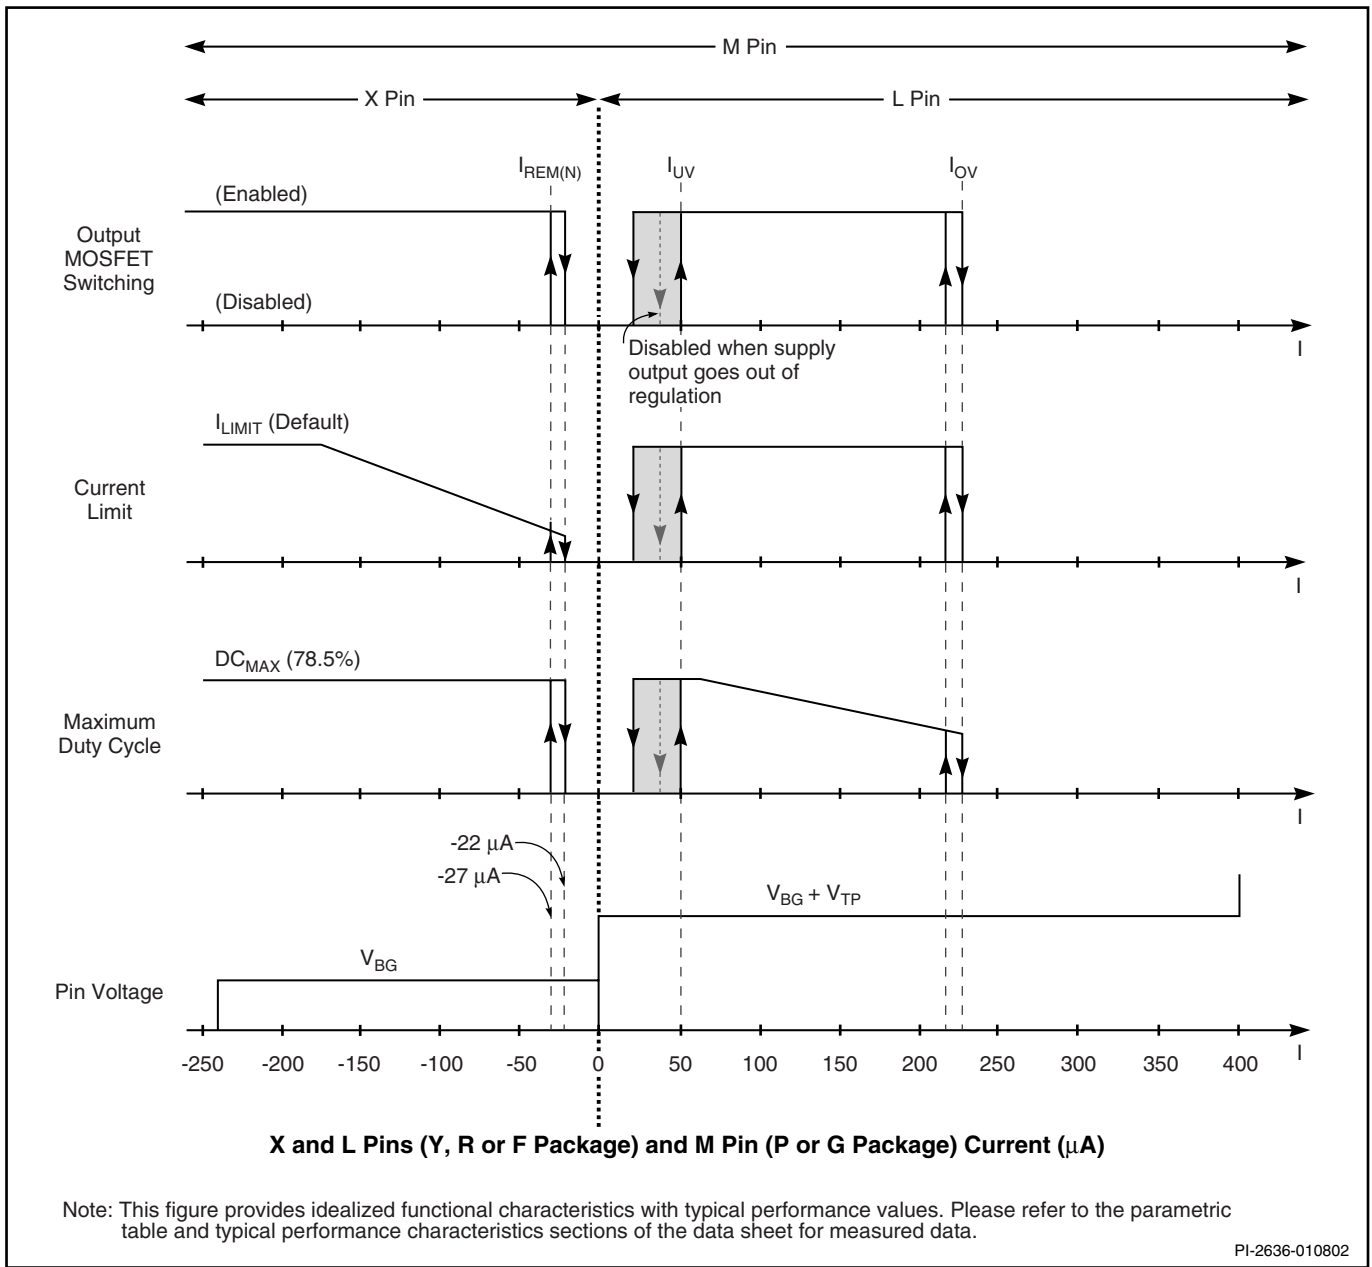
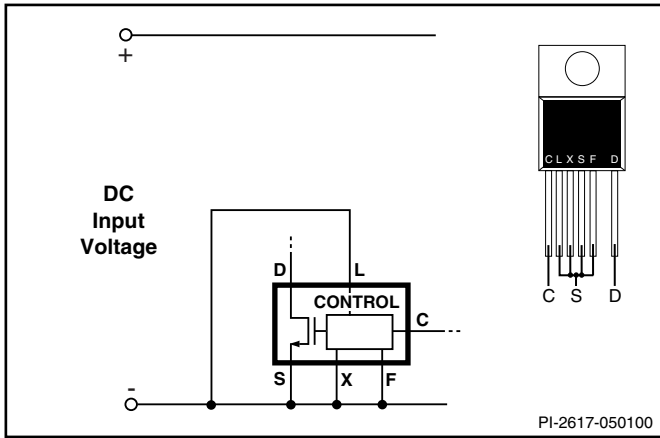
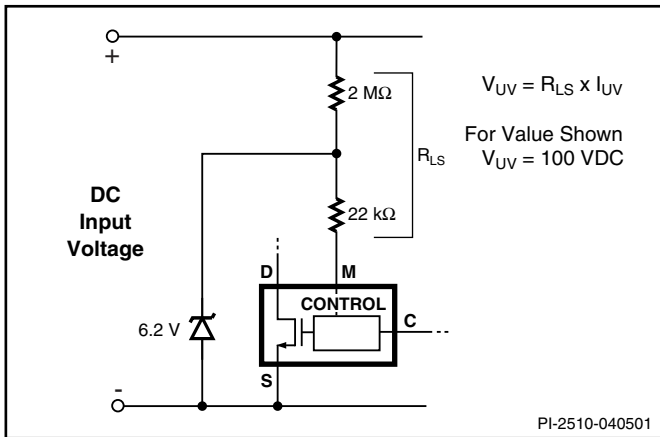
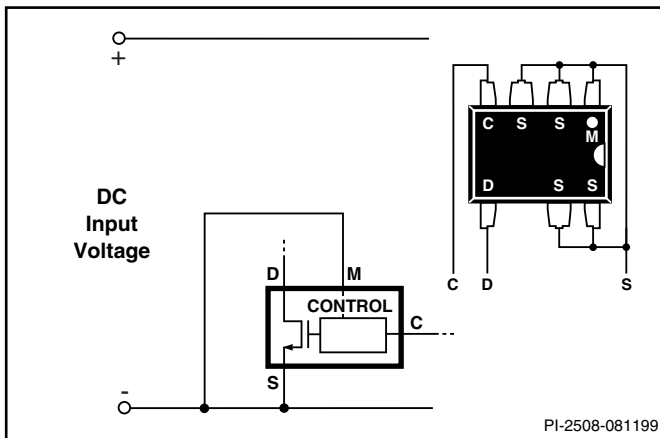

Figure 11. MULTI-FUNCTION (P or G package), LINSE-SENSE, and EXTERNAL CURRENT LIMIT (Y, R or F package) Pin Characteristics.
Figure 16. Three Terminal Operation (LINE-SENSE and EXTERNAL CURRENT LIMIT Features Disabled. FREQUENCY Pin Tied to SOURCE or CONTROL Pin).
Figure 18. Line-Sensing for Under-Voltage Only (Overvoltage Disabled).
Figure 30. Three Terminal Operation (MULTI-FUNCTION Features Disabled).
The LINE-SENSE (L) pin is usually used for line sensing by connecting a resistor from this pin to the rectified DC high voltage bus to implement line overvoltage (OV), under-voltage (UV) and line feed-forward with  $DC_{MAX}$  reduction. In this mode, the value of the resistor determines the OV/UV thresholds and the  $DC_{MAX}$  is reduced linearly starting from a line voltage above the under-voltage threshold. See Table 2 and Figure 11.
The EXTERNAL CURRENT LIMIT (X) pin is usually used to reduce the current limit externally to a value close to the operating peak current, by connecting the pin to SOURCE through a resistor. This pin can also be used as a remote ON/OFF and a synchronization input in both modes. See Table 2 and Figure 11.
The maximum duty cycle,  $DC_{MAX}$ , is set at a default maximum value of 78% (typical). However, by connecting the LINE-SENSE or MULTI-FUNCTION pin (depending on the package) to the rectified DC high voltage bus through a resistor with appropriate value, the maximum duty cycle can be made to decrease from 78% to 38% (typical) as shown in Figure 11 when input line voltage increases (see line feed forward with  $DC_{MAX}$  reduction).
The same resistor used for UV also sets an overvoltage threshold which, once exceeded, will force *TOPSwitch-GX* output into off-state. The ratio of OV and UV thresholds is preset at 4.5 as can be seen in Figure 11. When the MOSFET is off, the rectified DC high voltage surge capability is increased to the voltage rating of the MOSFET (700 V), due to the absence of the reflected voltage and leakage spikes on the drain. A small amount of hysteresis is provided on the OV threshold to prevent noise triggering. The OV feature can be disabled independent of the UV feature as shown in Figures 18 and 32.
feature, the maximum duty cycle  $DC_{MAX}$  is also reduced from 78% (typical) at a voltage slightly higher than the UV threshold to 30% (typical) at the OV threshold (see Figure 11). Limiting  $DC_{MAX}$  at higher line voltages helps prevent transformer saturation due to large load transients in forward converter applications.  $DC_{MAX}$  of 38% at the OV threshold was chosen to ensure that the power capability of the *TOPSwitch-GX* is not restricted by this feature under normal operation.
*TOPSwitch-GX* can be turned on or off by controlling the current into the LINE-SENSE pin or out from the EXTERNAL CURRENT LIMIT pin (Y, R or F package) and into or out from the MULTI-FUNCTION pin (P or G package) (see Figure 11). In addition, the LINE-SENSE pin has a 1 V threshold comparator connected at its input. This voltage threshold can also be used to perform remote ON/OFF control. This allows easy implementation of remote ON/OFF control of *TOPSwitch-GX* in several different ways. A transistor or an optocoupler output connected between the EXTERNAL CURRENT LIMIT or LINE-SENSE pins (Y, R or F package) or the MULTI-FUNCTION pin (P or G package) and the SOURCE pin implements this function with “active-on” (Figures 22, 29 and 36) while a transistor or an optocoupler output connected between the LINE-SENSE pin (Y, R or F package) or the MULTI-FUNCTION (P or G package) pin and the CONTROL pin implements the function with “active-off” (Figures 23 and 37).
There are a total of four functions available through the use of the LINE-SENSE pin: OV, UV, line feed-forward with  $DC_{MAX}$  reduction, and remote ON/OFF. Connecting the LINE-SENSE pin to the SOURCE pin disables all four functions. The LINE-SENSE pin is typically used for line sensing by connecting a resistor from this pin to the rectified DC high voltage bus to implement OV, UV and  $DC_{MAX}$  reduction with line voltage. In this mode, the value of the resistor determines the line OV/UV thresholds, and the  $DC_{MAX}$  is reduced linearly with rectified DC high voltage starting from just above the UV threshold. The pin can also be used as a remote ON/OFF and a synchronization input. Refer to Table 2 for possible combinations of the functions with example circuits shown in Figure 16 through Figure 40. A description of specific functions in terms of the LINE-SENSE pin I/V characteristic is shown in Figure 11 (right hand side). The horizontal axis represents LINE-SENSE pin current with positive polarity indicating currents flowing into the pin. The meaning of the vertical axes varies with functions. For those that control the ON/OFF states of the output such as UV, OV and remote ON/OFF, the vertical axis represents the enable/disable states of the output. UV triggers at  $I_{UV}$  (+50  $\mu$ A typical with 30  $\mu$ A hysteresis) and OV triggers at  $I_{OV}$  (+225  $\mu$ A typical with 8  $\mu$ A hysteresis). Between the UV and OV thresholds, the output is enabled. For line feed-forward with
There are two functions available through the use of the EXTERNAL CURRENT LIMIT pin: external current limit and remote ON/OFF. Connecting the EXTERNAL CURRENT LIMIT pin and SOURCE pin disables the two functions. In high efficiency applications, this pin can be used to reduce the current limit externally to a value close to the operating peak current by connecting the pin to the SOURCE pin through a resistor. The pin can also be used for remote ON/OFF. Table 2 shows several possible combinations using this pin. See Figure 11 for a description of the functions where the horizontal axis (left hand side) represents the EXTERNAL CURRENT LIMIT pin current. The meaning of the vertical axes varies with function. For those that control the ON/OFF states of the output such as remote ON/OFF, the vertical axis represents the enable/disable states of the output. For external current limit, the vertical axis represents the magnitude of the  $I_{LIMIT}$ . Please see graphs in the Typical Performance Characteristics section for the current limit programming range and the selection of appropriate resistor value.
be used as a remote ON/OFF and a synchronization input in both modes. Please refer to Table 3 for possible combinations of the functions with example circuits shown in Figure 30 through Figure 40. A description of specific functions in terms of the MULTI-FUNCTION pin I/V characteristic is shown in Figure 11. The horizontal axis represents MULTI-FUNCTION pin current with positive polarity indicating currents flowing into the pin. The meaning of the vertical axes varies with functions. For those that control the ON/OFF states of the output such as UV, OV and remote ON/OFF, the vertical axis represents the enable/disable states of the output. UV triggers at  $I_{UV}$